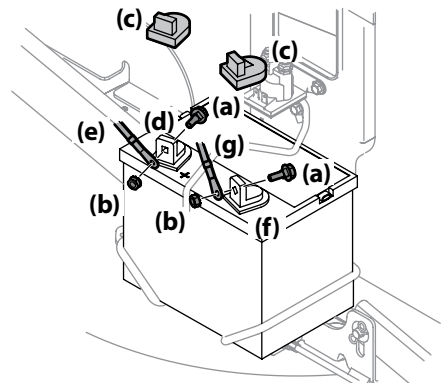

Figure 2-14
1. Remove the factory installed hex bolts (a) and sems nuts (b) located on the end of the wiring harness. Retain the hardware for later instructions. See Figure 2-14.